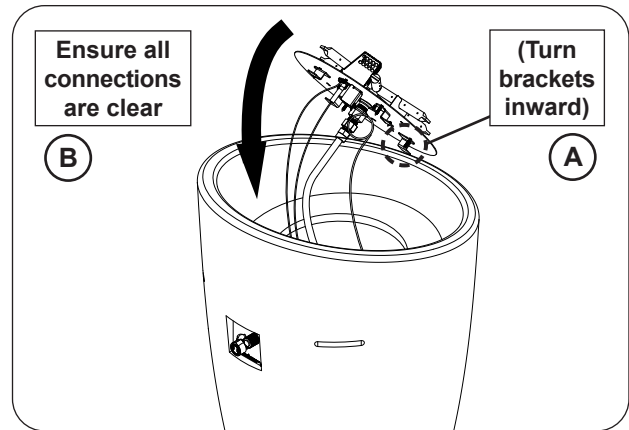

Fig. 22-1 Insert burner assembly
1. Ensure that the 4 burner brackets are turned inward, then insert the burner assembly (see Fig. 22-1, A-B).